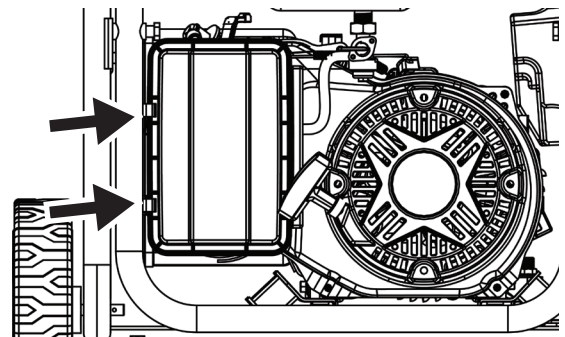

Figure 23 - Unclip air filter
3. Unclip the clips on the side of the air filter cover (Figure 23).